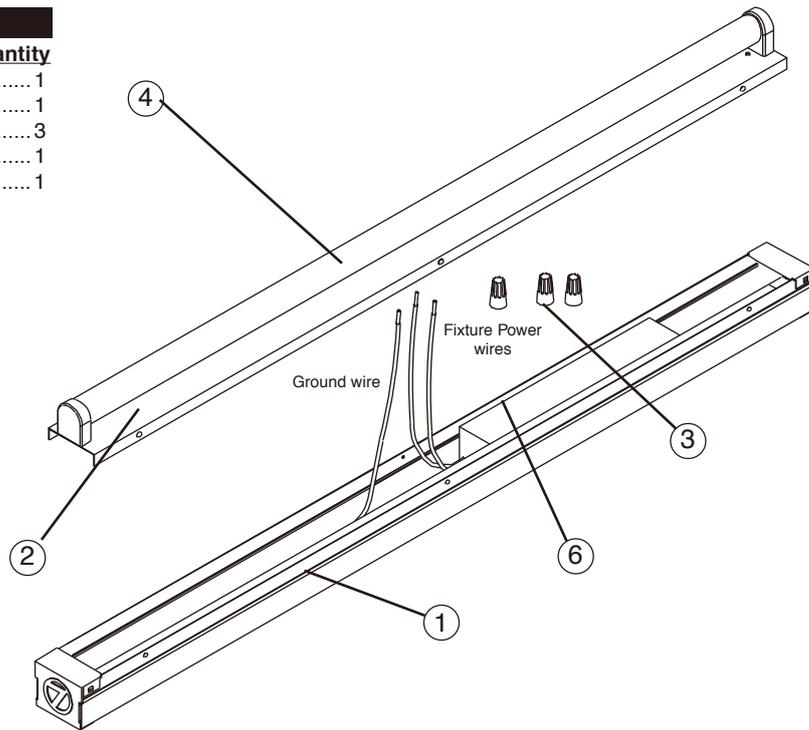

FIGURE 1
1. Remove fixture components and parts pack(s). Check that all parts are included. **See Fig. 1.**